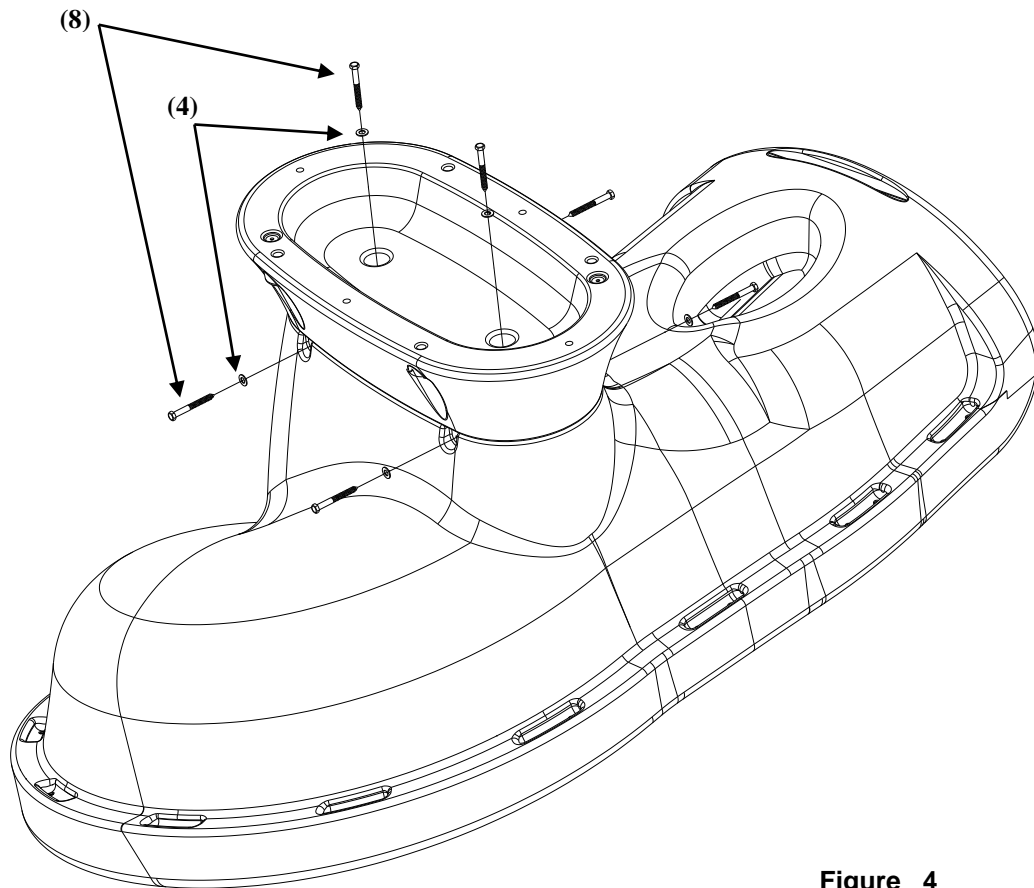

Figure 4
- 1) Attach the pedestal part to the runway exit section as shown in Figure 4 by inserting the two lag screws into the holes located in the bottom of the pedestal.